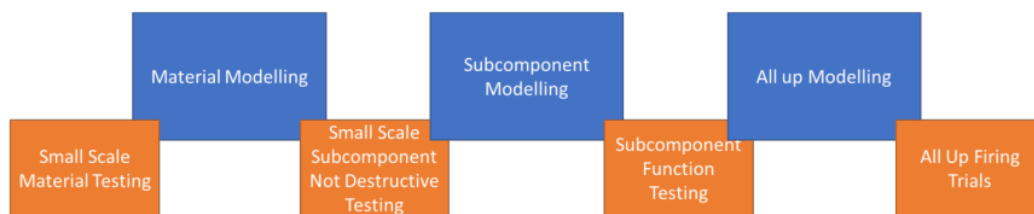

Figure 4-1 : 7-Box Method
- 4.2.1 The 7-box smart qualification process is detailed in figure 4-1 and details how the new round variant can be qualified with minimal, large scale firing trials.